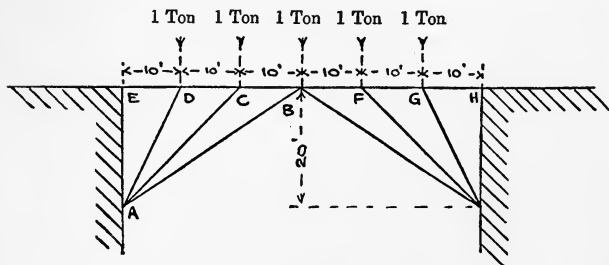

Fig. 4.
8. In the bridge shewn in Fig. 4 the horizontal member is made up of separate bars ED , DC , CB , etc., hinged together at their extremities. Use the method of sections to determine the stresses in the members AB , BC . The tension stresses in the bars ED and GH may be taken as 2 tons. Draw the reciprocal figure for the whole framework and determine the horizontal and vertical components of the reaction at A .